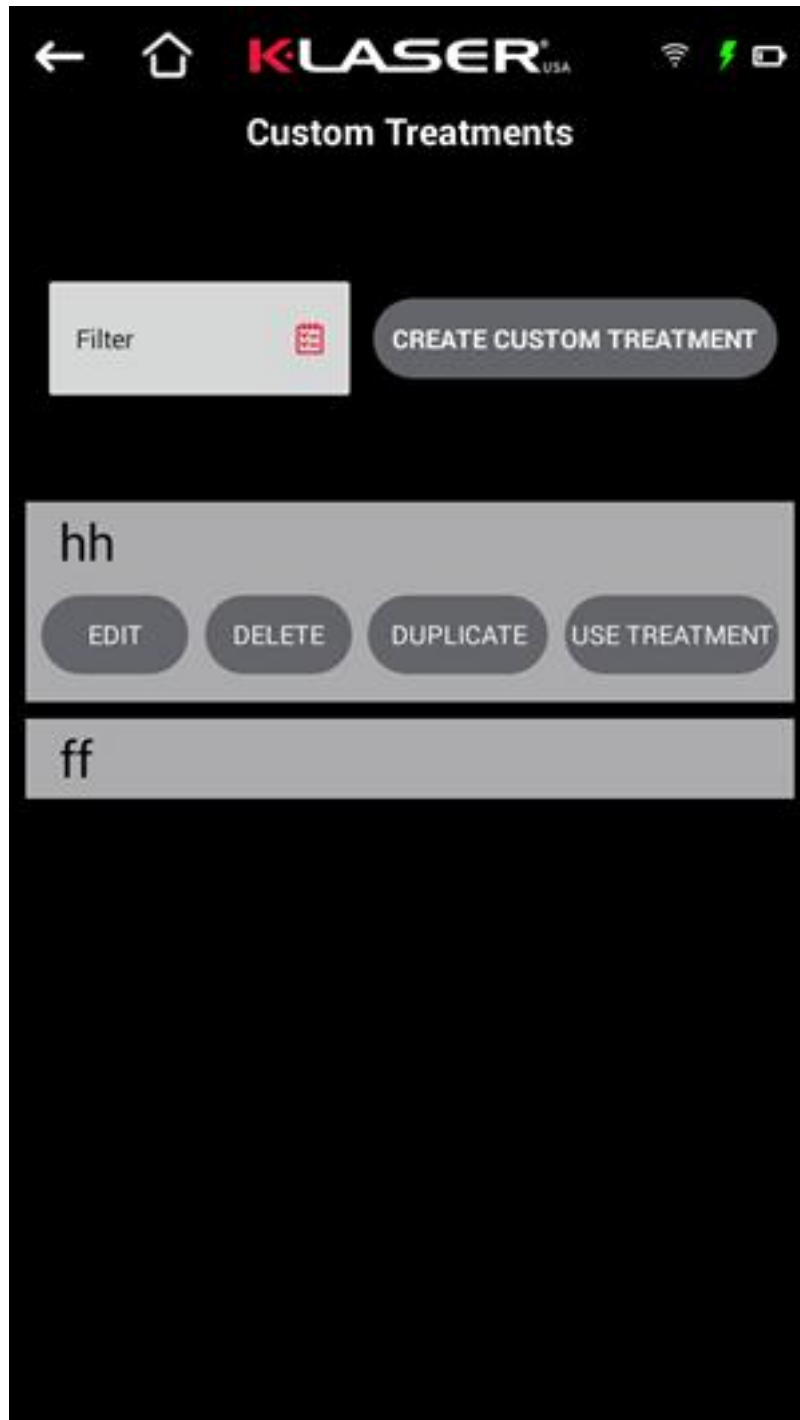

Figure 6: Custom Treatments Interface
6) Go back to the "Custom Treatments" interface (Figure 6) and select the treatment plan you just created. If you want to edit it again, click "EDIT"; if you want to delete it, click "DELETE"; if you want to copy the treatment, click "DUPLICATE" , Enter the new program name; if you want to directly treat, click on "USE TREATMENT" to